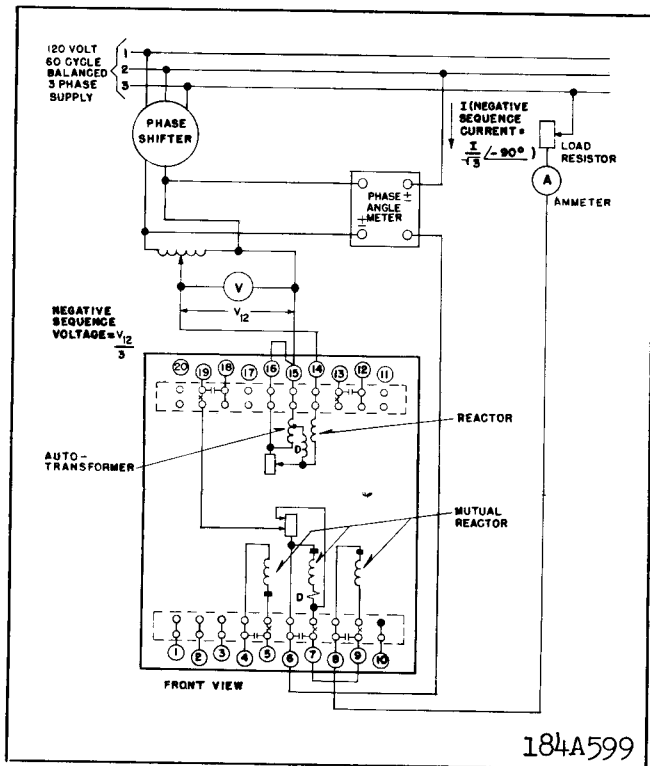

Fig. 7. Test Diagram for Checking Maximum-Torque Angle and Minimum Voltage for Contact Closure of Directional Unit.
2. Sensitivity — Refer to the test diagram in fig. 7. Apply a single-phase voltage V_{12} equal to 0.57 volts (corresponds to a negative-sequence input voltage of .19 volts) and a single-phase current equal to 6.93 amperes as shown (corresponds to a negative sequence input current of 4 amperes). With a phase angle meter connected as shown, rotate the phase shifter until the current leads the voltage by 188° . This corresponds to the negative sequence component of current leading the negative sequence component of voltage by 98° . The directional unit contact should pick up within $\pm 10\%$ of the above input voltage to the relay.